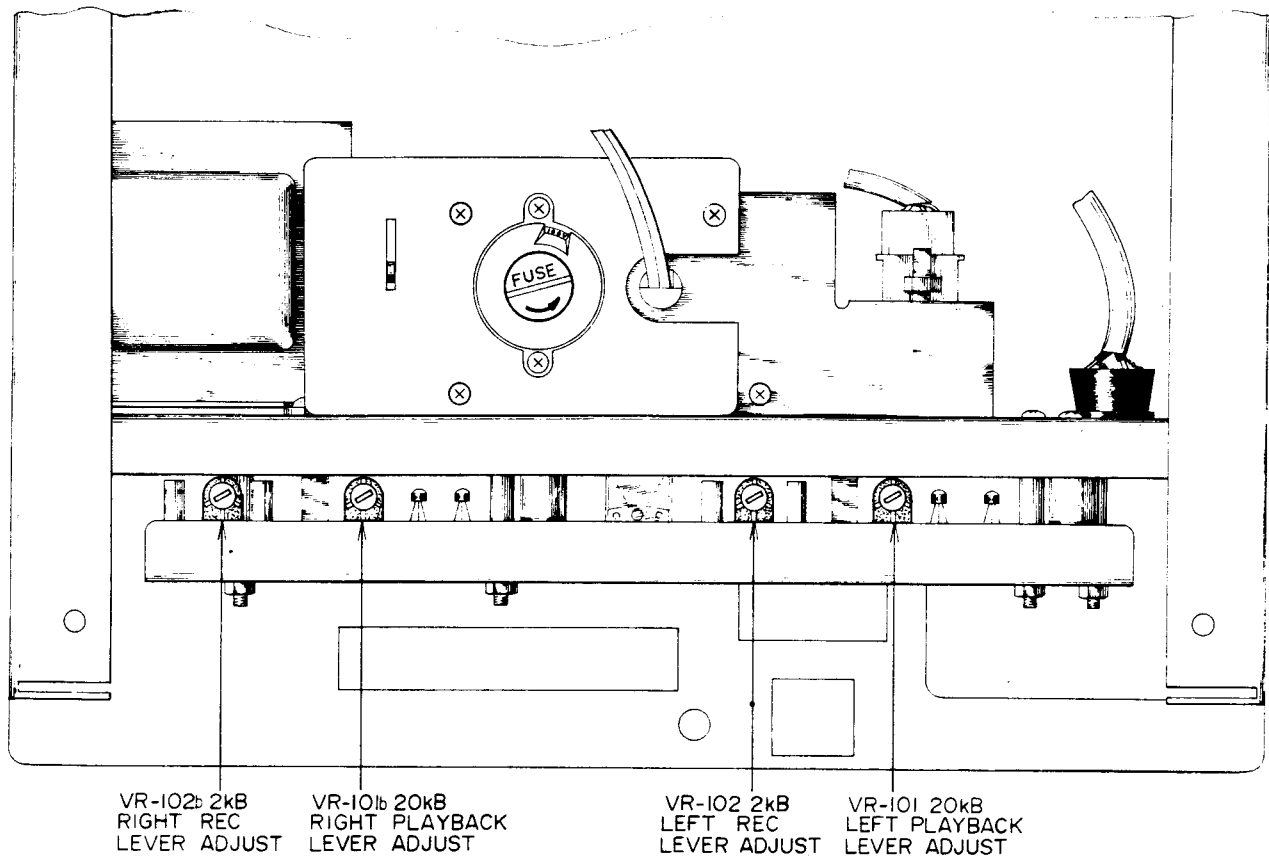

Fig. 11
1. PLAYBACK OUTPUT LEVEL ADJUSTMENTS (See Fig. 11)